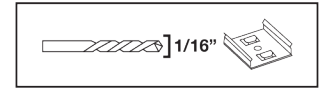

FIG. 9
3. Drill 1/16" pilot holes through each exposed screw hole. (See FIG. 9)